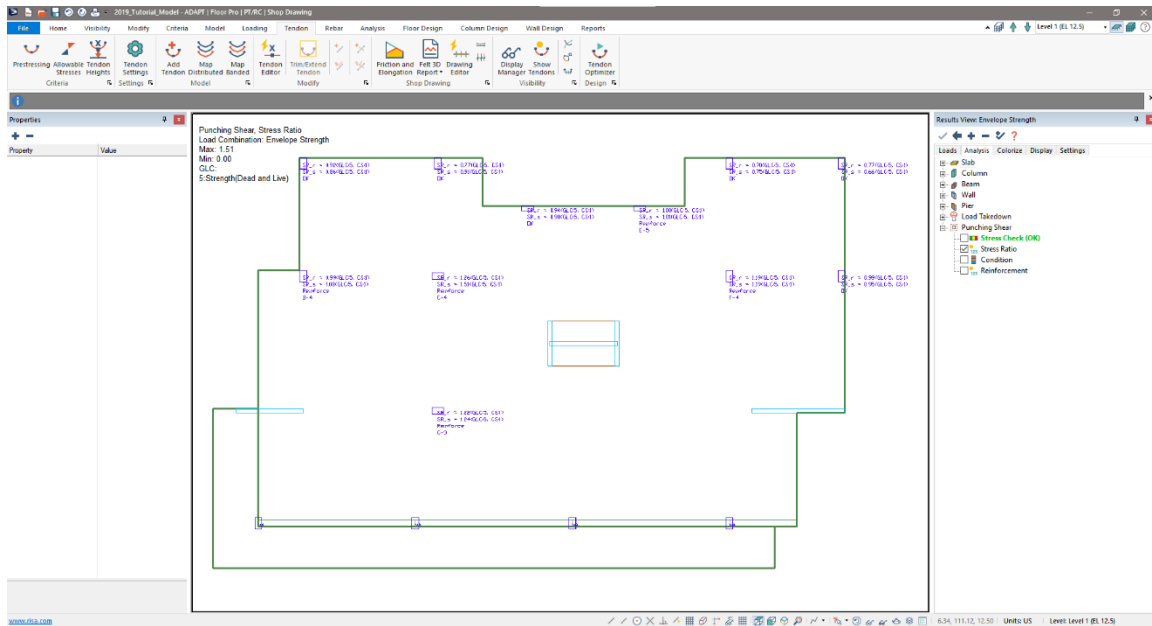

Figure 9-108
- The users screen should look as shown in **FIGURE 9-108**.